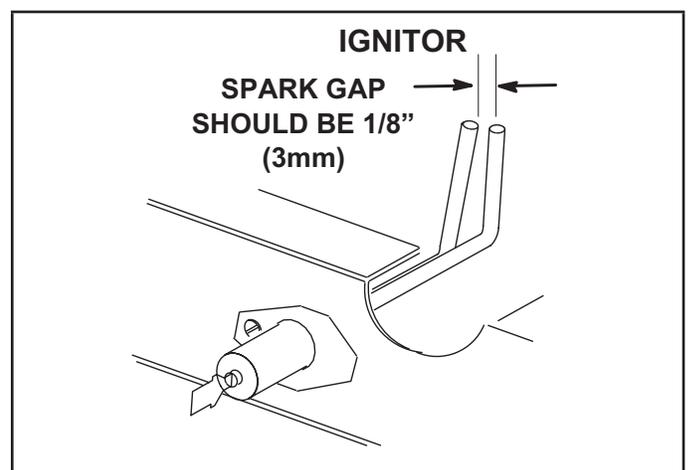

FIGURE 25
- 4 - Locate the ignitor under the left burners. Check ignitor spark gap with appropriately sized twist drills or feeler gauges. See FIGURE 25 and TABLE 20.